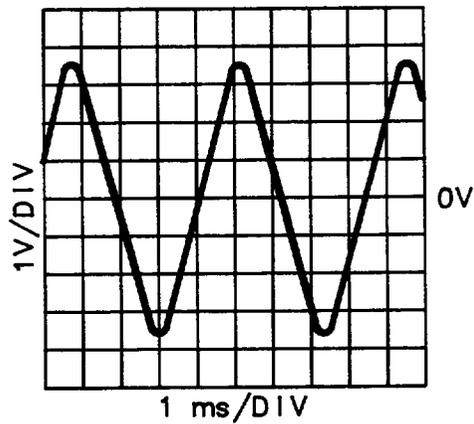

Figure 8-7. A4TP4 Bandpass Amplifier Waveform
11. Connect the oscilloscope to A4TP4. Verify the signal shown in Figure 8-7. The signal level should be 1.8 times the voltage at A4TP17 p-p,  $\pm 0.8V$ .